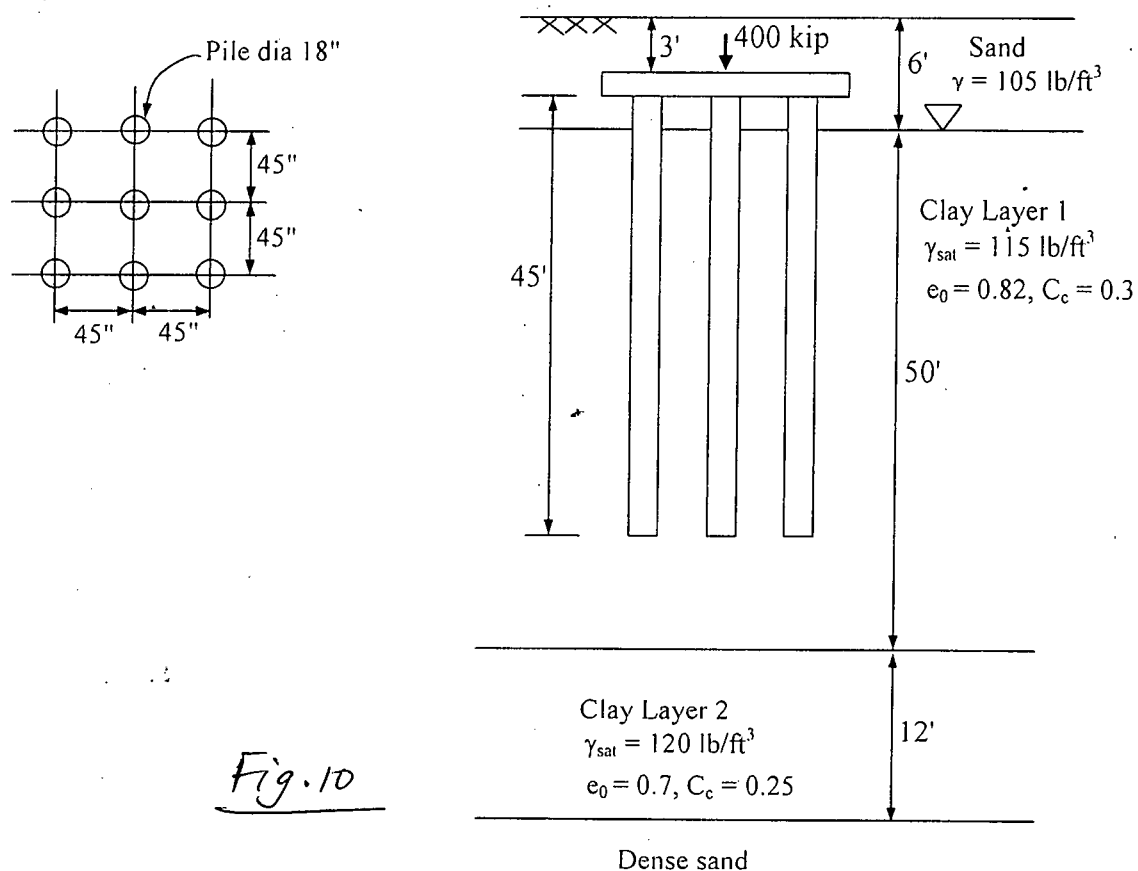

Fig.10
(d) A group of pile in clay is shown in Fig. 10. Determine the consolidation settlement of the pile group. All the clay layers are normally consolidated. (15)
8. (a) What soil parameters can be obtained from SPT-N value using correlations? Discuss the major concerns with the SPT correlations. (10)